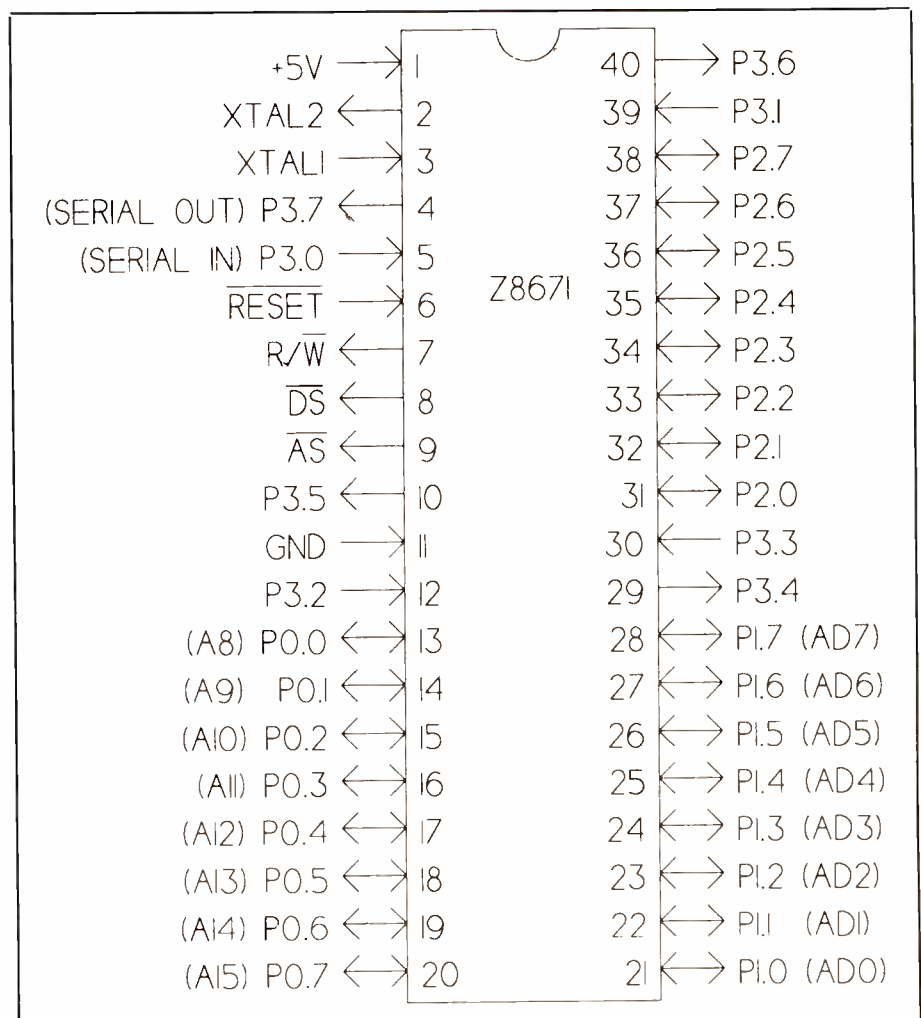

Fig. 1. Pinout of the Z8671 single-chip microcomputer with BASIC/Debug programmed into on-bound ROM.
Figure 1 gives the pinout of the Z8671. This IC can address up to 124 kilobytes of external memory: 62K each of data and program memory. An additional 2K of internal ROM contains BASIC/Debug. For smaller systems, the Data Memory Select (DM) control signal can be ignored, for a maximum 62K of combined data and program memory.